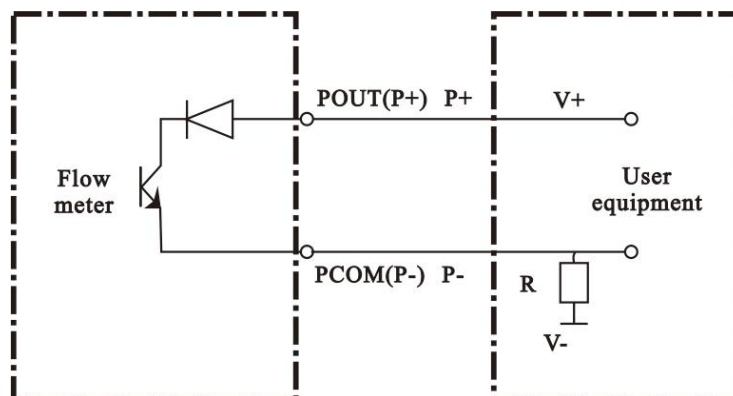

Figure 10
7.5.2 Output mode 2: passive output of OC door, user-side pull-down resistance (Figure 10)